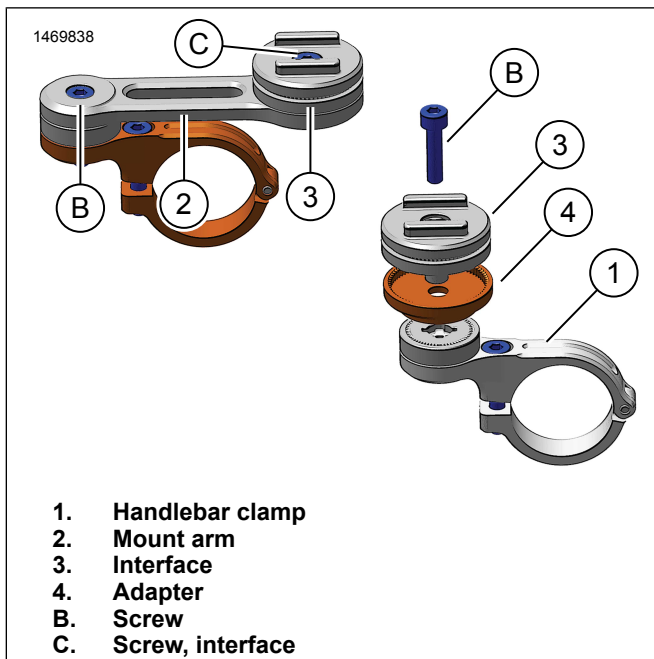

Figure 4. Handlebar Mount Options
8. See Figure 4. Alternate handlebar mount installation.
- a. Remove screw (B) and screw (C).
- b. Remove mount arm (2) from mounting clamp (1).
- c. Remove phone interface (3) from mount arm (2).
- d. Install adapter (3), phone interface (3) and screw (B). Tighten.